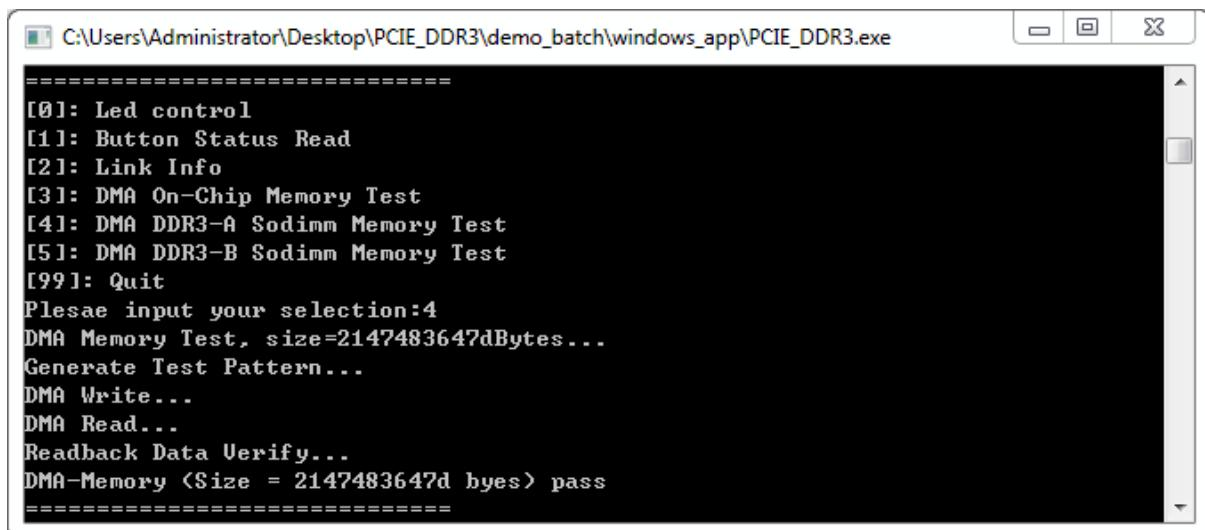

Figure 7-19 Screenshot of DDR3-A SOSIMM Memory DAM Test Result
10. Type-4 followed by the ENTER key to select DMA DDR3-A SODIMM Memory Test item. The DMA write and read test result will be report as shown in **Figure 7-19**.